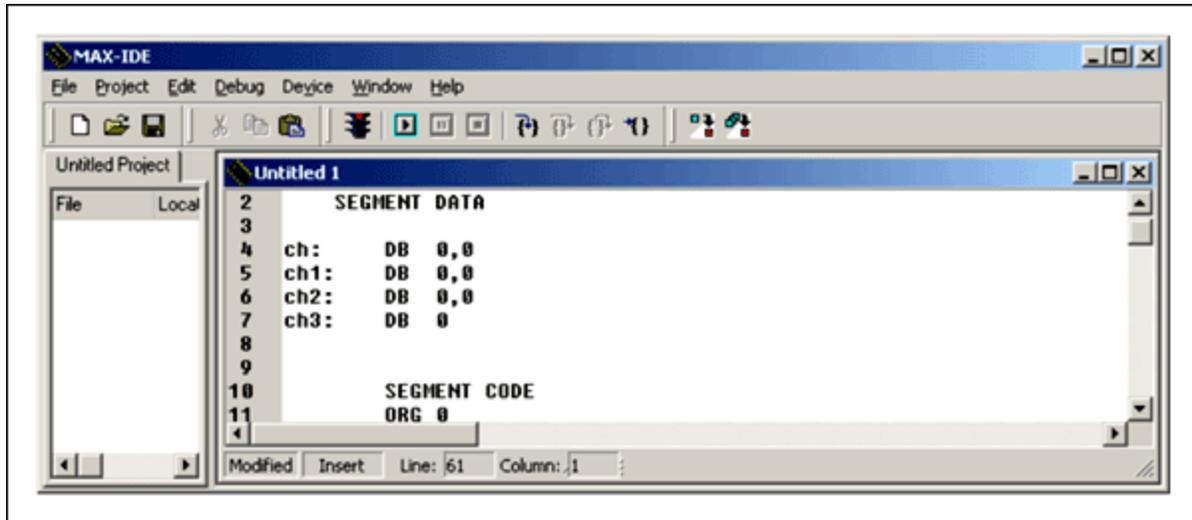

Figure 2. Use the project manager and editor windows to create a new file.
Step 2: Before proceeding with the project menu, you need to add files to this project. From the main menu create a new source file by choosing **File**→**New File** from the menu. This will open a new editor window with the title "Untitled 1." Enter the assembly code shown in **Table 1** below. Alternatively, you can download the assembly code and add this file to the project, as explained in Step 4 below. **Figure 2** shows the MAX-IDE with the project manager and editor windows open.